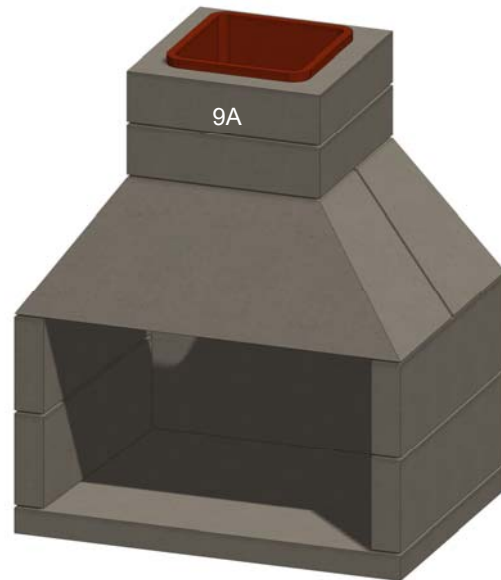

Figure 14. Chimney Complete
H. Install the next chimney section (9A), or any additional chimney sections to be installed. Fully bed each piece in mortar, and filling in the gap between the clay tiles in each section. Parge the joints to create a smooth transition between each chimney section. Note that if a tile is chipped or slightly out of square, it may be used as long as the joints are filled and smoothed with high temperature mortar. See Figure 14.